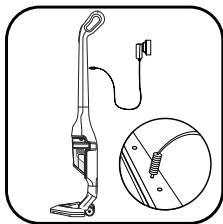

fig. 5
- Plug the charger into the mains and connect it behind the handle (fig.5).
- The charging light (4) on the front comes on. Leave the vacuum cleaner to charge. The light goes out at the end of the recharging cycle (about 16 hours). The appliance can remain permanently on charge without any risk. The base might heat up slightly, which is a perfectly normal phenomenon.